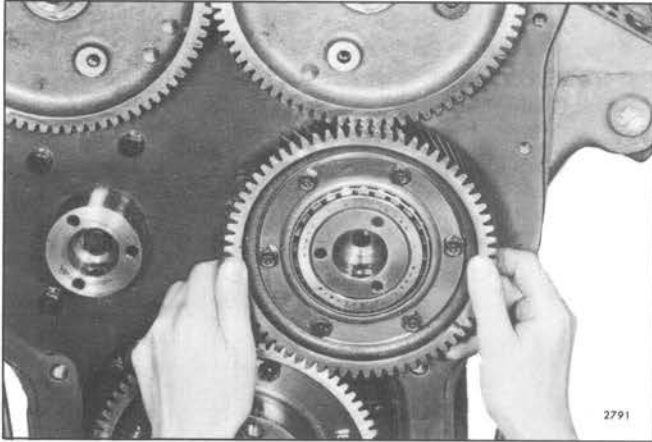

Fig. 9 – Installing Idler Gear, Hub and Bearing Assembly
5. If previously removed, install the idler gear hole spacer (dummy hub) (Fig. 9). Secure the spacer to the cylinder block end plate and cylinder block with a 1/2"-13 bolt and special washer. Tighten the bolt to 80-90 lb-ft (108-122 N•m) torque.